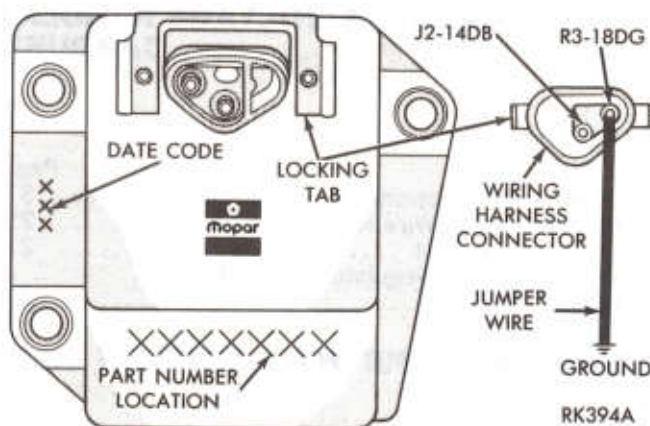

Fig. 3—Jumping Connector Green Wire to Ground
(5) Connect a 0-100 amps minimum range scale D.C. test ammeter in series between alternator "Bat" terminal and disconnected alternator output wire. Connect ammeter Positive lead wire to alternator "Bat" terminal and Negative ammeter lead to disconnected alternator output wire.
(6) Connect a 0-18 volt minimum range scale test Voltmeter between disconnected alternator output wire and Positive battery cable. Connect voltmeter Positive lead to disconnected alternator output wire and Negative voltmeter lead to battery Positive cable at battery post.
(7) Disconnect wiring harness connector from Electronic Voltage Regulator on vehicle (Fig. 3).
(8) Connect a "Jumper" wire from wiring harness